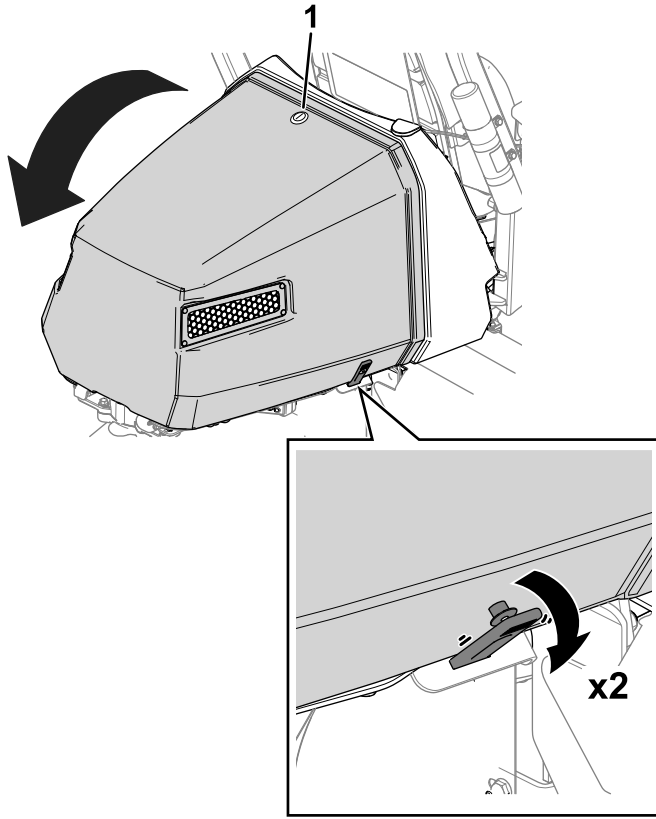

Figure 44
1. Release the hood latch (Figure 44).
2. Release the straps from each side of the hood (Figure 44).